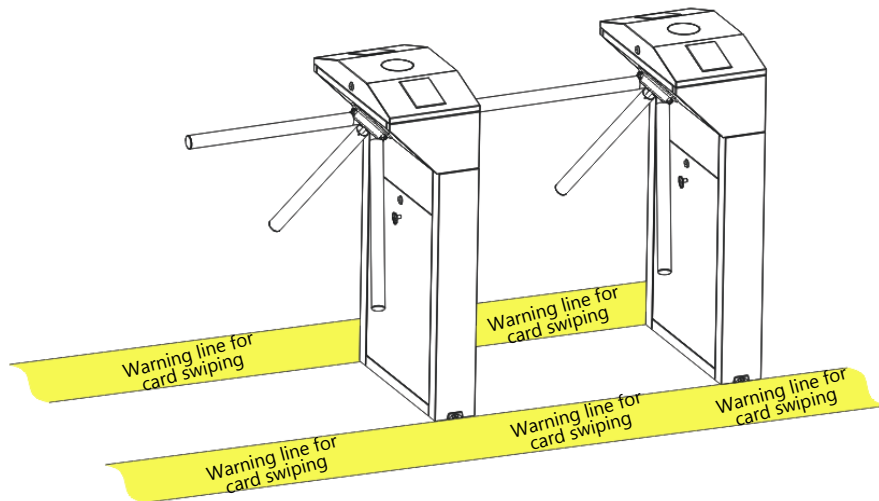

Figure 3-2
3. Setting a warning line for card swiping (see figure 3-2). A warning line is suggested to prompt users to swipe cards in a distance, which would greatly reduce the probability of equipment failure caused by improper operations.